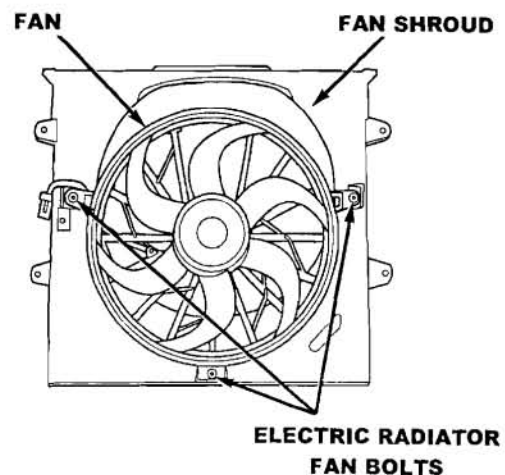

Figure 4
17. Remove the three bolts holding the electric radiator fan to the fan shroud (Figure 4). Discard the old electric radiator fan.
18. Install the new electric radiator fan into the shroud and tighten the three bolts to 50 in. lbs. (6 N·m) (Figure 4).